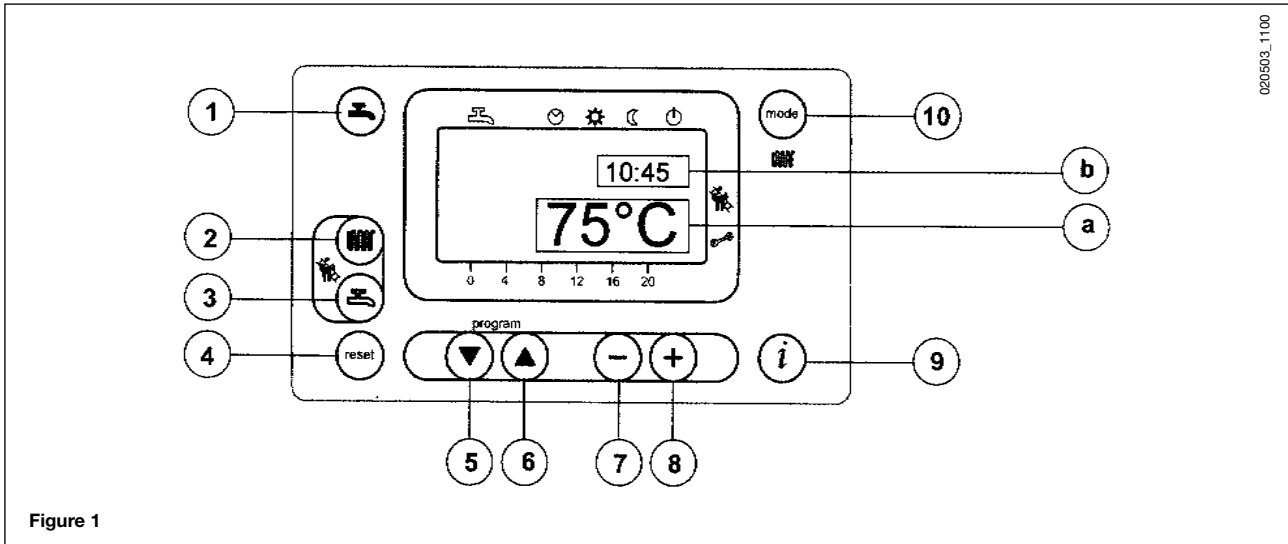
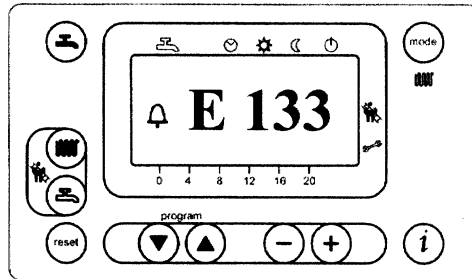
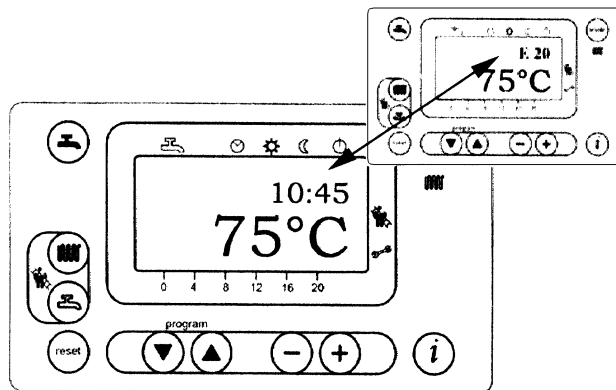

Figure 1
Figure 4
Figure 4.1
- Press the (🚿) key (2-figure 1) to set the central heating water temperature;
- press either of the (🚿) (mode) keys (1 or 10 - figure 1) to save and return to the main menu.
N.b – With the outdoor sensor probe connected, the (🌡️) key (2 - figure 1) can be used to shift the central heating curve. Press the (-) (+) keys to decrease or increase the room temperature in the premises to be heated.
- Press the (🚿) key (3-figure 1) to set the maximum domestic hot water temperature;
The fault warnings appear on the main display (figure 1 a) together with the  symbol (Figure 4). To reset, press the reset  button for at least two seconds.
Fault warnings appear on the secondary display (figure 1 b) alternating with the time, both of them flashing (figure 4.1). It is not possible to reset malfunction warnings which appear on the secondary display as the cause of the alarm has first to be removed.